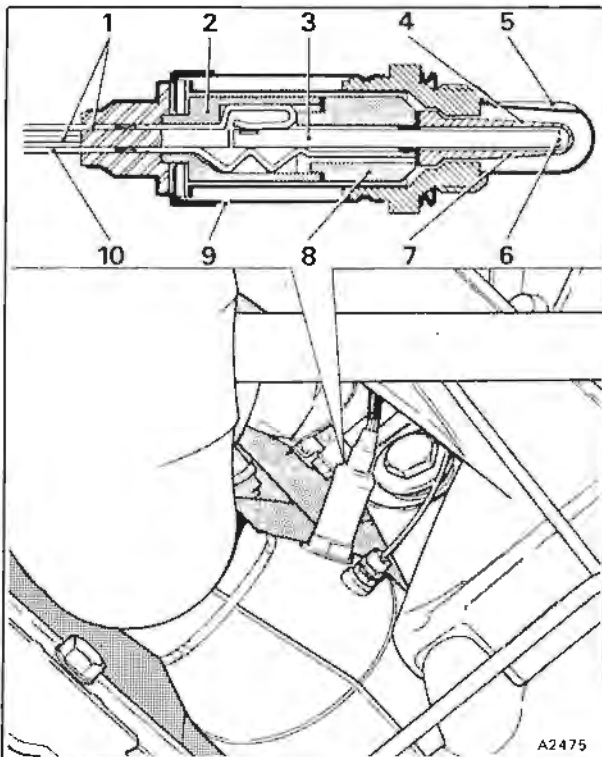

Fig. B4-22 Heated oxygen sensor
**Heated oxygen sensor** (see fig. B4-22)